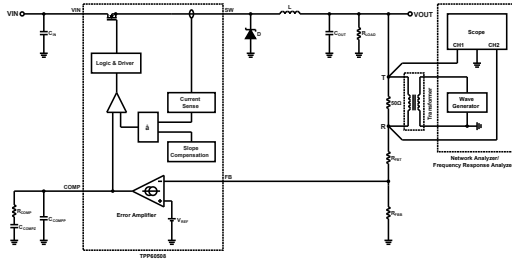

Figure 1-2
supply's Bode plot test results do not match their expectations, while the load step response of the power supply tested with an oscilloscope is as expected. To answer this question, we need to understand the basic principles of power frequency response testing. Figure 1-2 showcases the scene of 3PEAK's laboratory testing of the Bode plot for their switch-mode power supply product, TPP60508. TPP60508 is an asynchronous buck converter product currently being mass-produced by 3PEAK. It operates in peak current control mode, supports a wide input voltage range from 4.5 V to 60 V, and has a current rating of 5 A.
As shown in Figure 1-2, the basic principle of power Bode plot testing is to disconnect the loop from the output and connect a 50-Ω resistor. A network analyzer or frequency response analyzer with a built-in function generator is used to generate sinusoidal disturbances at different frequencies. After passing through the transformer for electrical isolation, the disturbances are injected into the 50-Ω resistor. The response signal at the 50-Ω resistor is then fed back to the network analyzer or frequency response analyzer's built-in oscilloscope for amplitude and phase analysis. Finally, the test results (i.e., the Bode plot) are presented to the user.
We know that the stability analysis of a system is based on a certain steady-state operating point. Therefore, during Bode plot testing, the sinusoidal disturbances injected into the power supply system from the 50-Ω resistor should not disrupt its linear response operating state. This means that the error amplifier and pulse width modulator in Figure 1-2 should operate in their linear regions.
The basic principle of power Bode plot testing, as illustrated in Figure 1-2 can be succinctly explained using the following equation:
1. The sinusoidal disturbance generated by the function generator in Figure 1-2 needs to pass through a transformer for electrical
2. Can the 50-Ω resistor in Figure 1-2 be replaced with a different value? The answer is yes. As long as the introduction of the resistor does not affect the static operating point of the power supply system and can handle the power dissipation caused by the sinusoidal disturbance injected across it, other values can be used. Generally, selecting a nominal value within the range of 10-50Ω is common, with 50 Ω being the most frequently used.
4. In Figure 1-2, a resistor is used as the load at the power supply output for illustrative purposes. In practical power
The Bode plot testing principle showcased in Figure 1-2 highlights how power engineers can perform power supply frequency response testing and evaluation using only an oscilloscope, function generator, and transformer when they do not have access to a network analyzer or frequency response analyzer.